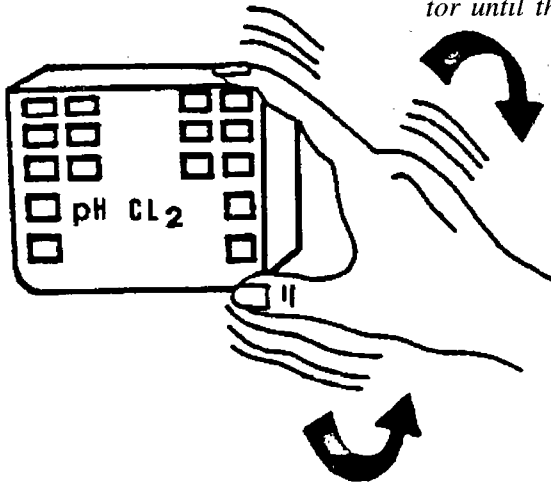

Figure 4. Dissolving the tablets
- Replace the lid on the comparator and shake the comparator until the tablets have dissolved (see Figure 4).